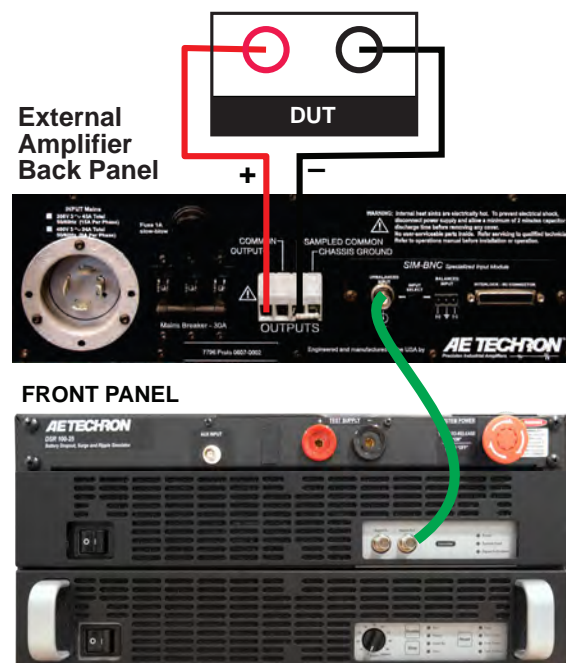

Figure 4.6 – Connecting an External Amplifier
2. **Connect External Amplifier:** Use a BNC cable to connect from the BNC connector labeled Signal Out located on the DSR 100-25 3110A waveform generator's front panel to the signal input connector on the external amplifier. See **Figure 4.6**.
3. **Connect the Outputs:** Using the supplied mating output connectors and wiring appropriate for your application, connect from the external amplifier's positive and negative output connectors to the device under test. See **Figure 4.6**.